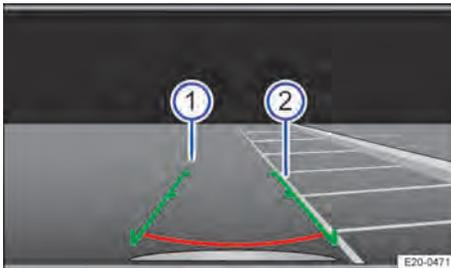

Fig. 120 Infotainment system screen display: Choose parking space.
1. Position the vehicle in front of the parking space → Fig. 120 ②.